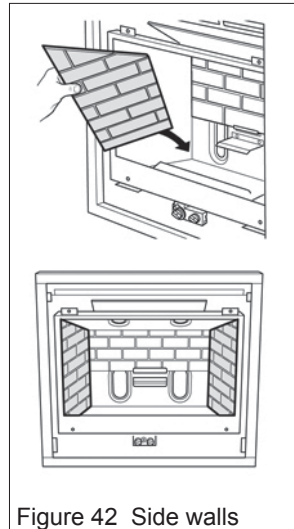

Figure 42 Side walls
2. Locate the sidewalls against the sides of the firebox. Make sure that they are behind the raised edges of the burner module base at the back corners. See figure 42.